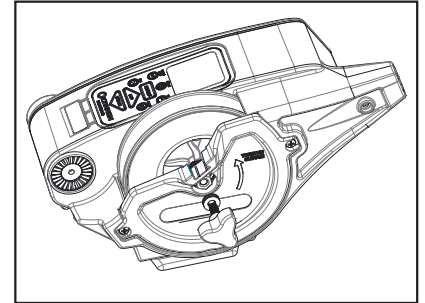

Figure 17
1. Loosen and remove the clutch knob. Turn the clutch knob clockwise until it is free of the motor shaft. (Figure 17)